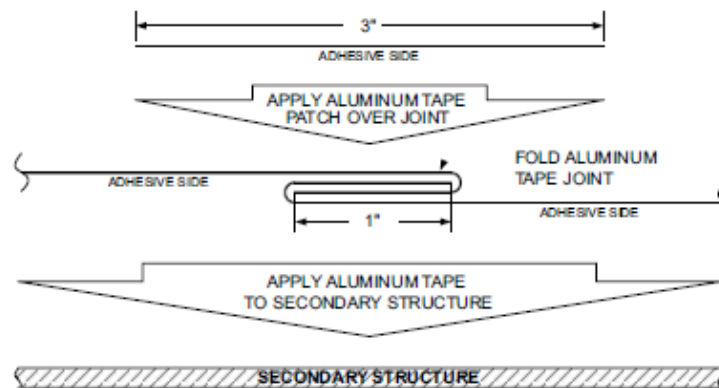

Figure 4-59 Aluminum Tape Joint
7. If two pieces of tape need to be joined end-to-end, they can be joined as illustrated in Figure 4-59.